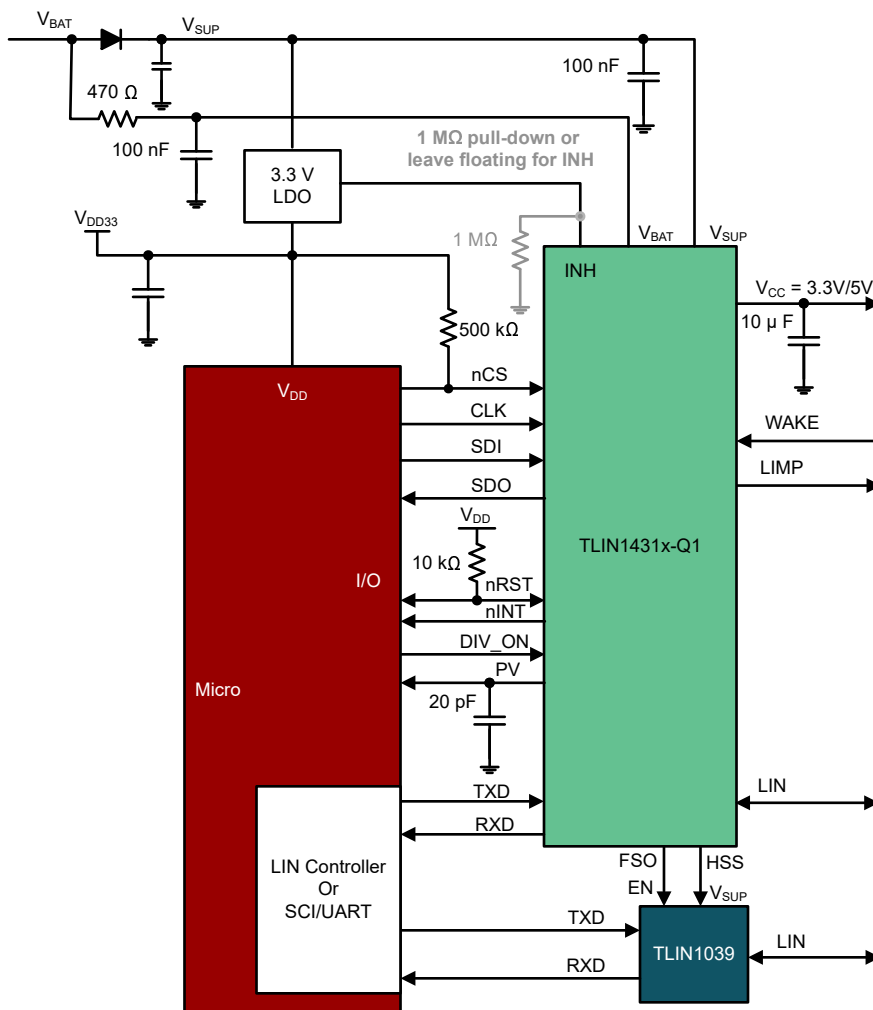

图 8-19. Channel Expansion: LIN Transceiver
- Two LIN transceivers by using a simple eight pin LIN transceiver (see Figure 8-19)